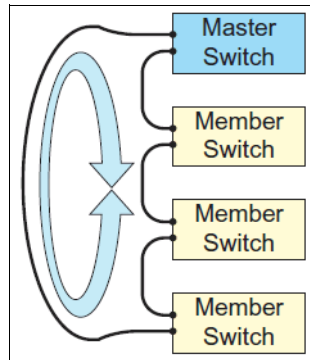

Figure 2-20 Stacking connection
- The preferred stacking topology is a bidirectional ring (Figure 2-20). To achieve this topology, two external 10Gb Ethernet ports on each switch must be reserved for stacking. By default, the first two 10Gb Ethernet ports are used.